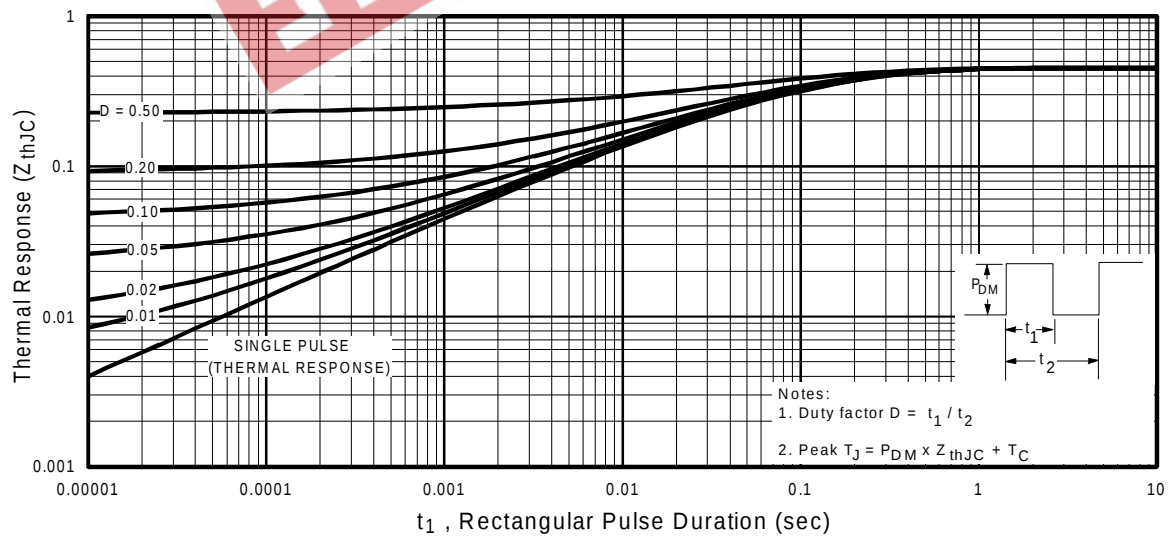

Fig 11. Maximum Effective Transient Thermal Impedance, Junction-to-Case
① Repetitive rating; pulse width limited by max. junction temperature. (See fig. 11)
③ $I_{SD} \leq 16A, di/dt \leq 140A/\mu s, V_{DD} \leq V_{(BR)DSS}, T_J \leq 150^\circ\text{C}$
④ $V_{DD} = 25V$, starting $T_J = 25^\circ\text{C}$, $L = 7.2mH$